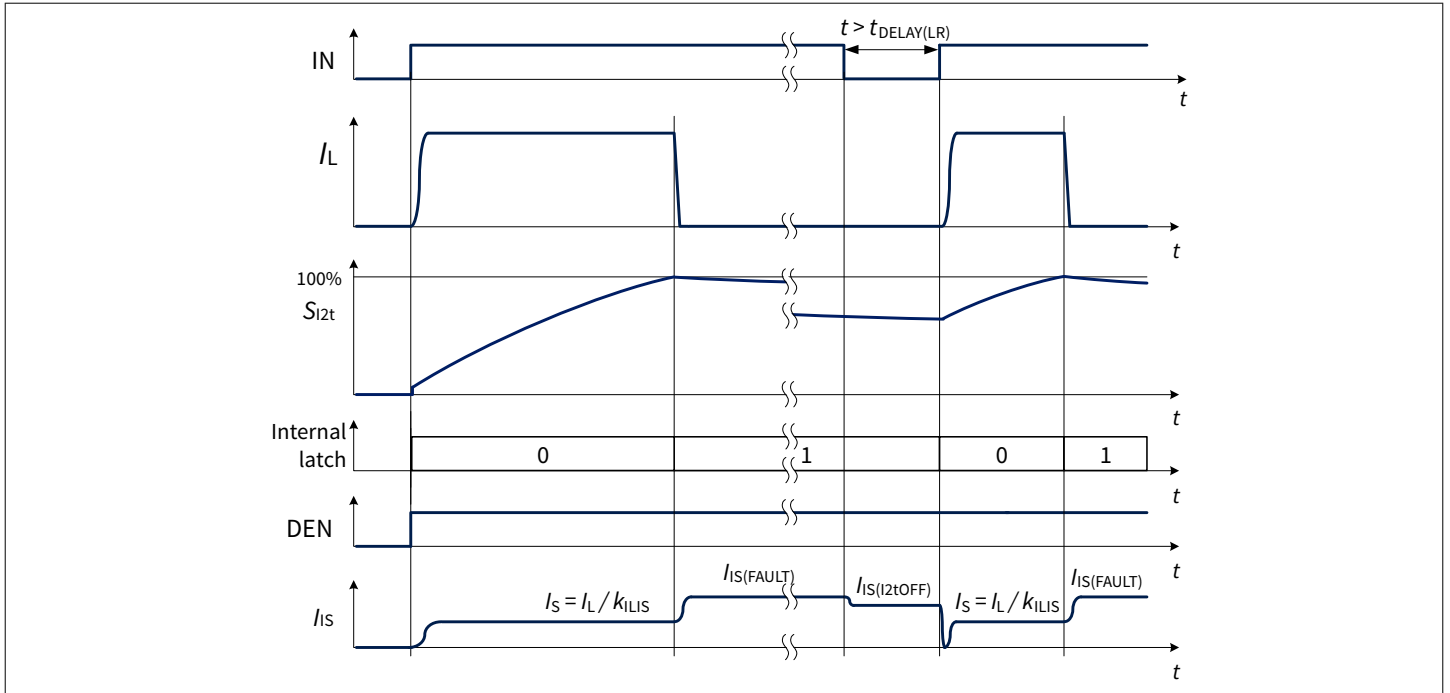

Figure 38 Intelligent latch timing diagram for IN reset in case of triggered I2t protection
- With IN pin: By setting the input pin to "low" for a time longer than $t_{DELAY(LR)}$ ("latch reset delay" time) the channel is reset. If the input is set to "high" during the "latch reset delay" time, the channel remains switched OFF and the timer $t_{DELAY(LR)}$ is reset. The timer $t_{DELAY(LR)}$ restarts as soon as the input pin is set to "low" again (see Figure 38)